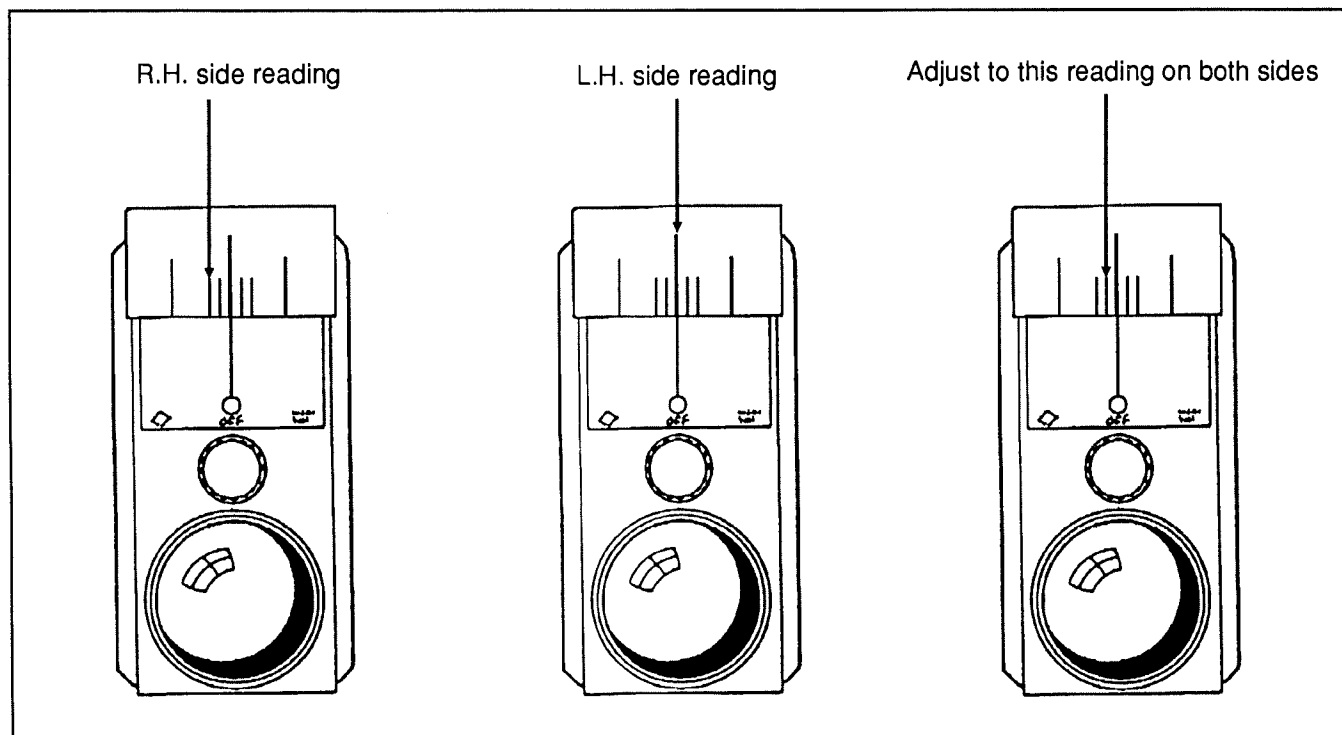

FIG. 8 - Readings on projector
6. Loosen steering arm end clamp bolts, then rotate (clockwise or counterclockwise) the steering arm until the proper alignment is achieved; the mark on projector should be equal on both sides. Work out the average of both readings; refer to figure 8 for details.